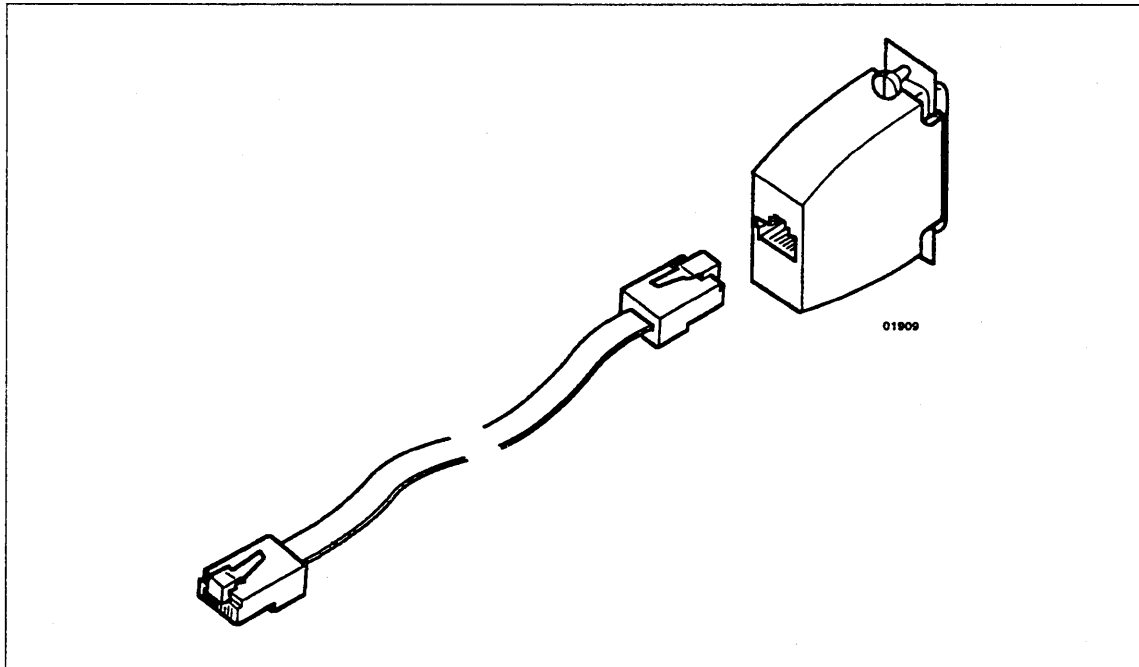
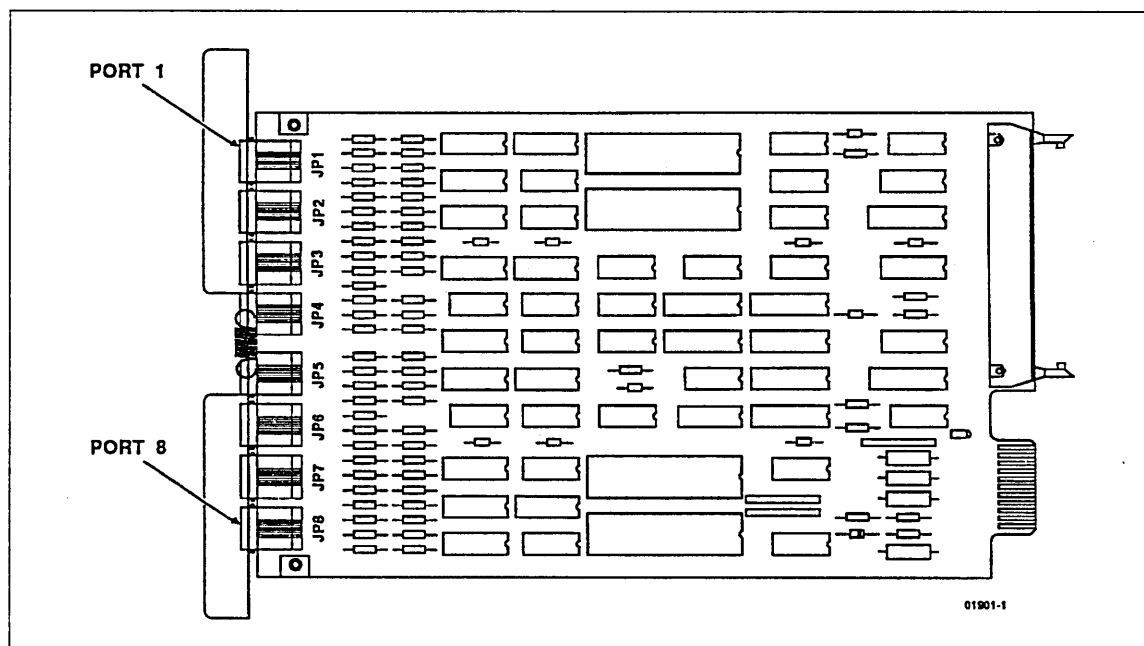

Figure 2-7. DY267 (8-Port) LIM Cables (YA333-x) and Modular Adapter (YA324-x)
Figure 2-8. DY267 LIM Port Connectors
The DY267 LIM uses YA333 cables and YA324 modular adapters (figure 2-7). The A, B, C, and D suffixes to the cable equipment numbers (such as YA333-A) indicate cable lengths of 4.3 m (14 ft), 7.6 m (25 ft), 15.2 m (50 ft), and 60.8 m (200 ft), respectively. The A, B, C, D, and E suffixes to the modular adapters (such as YA324-A) indicate the different functions provided by each adapter as shown in the following list.
1. Connect the cable(s) (figure 2-7) to one of the connectors on the LIM (figure 2-8).
2. Tag and connect the cables to the appropriate modular adapter (figure 2-7). Connect the modular adapter to the terminal device. Refer to the specific terminal device manual for instructions on connecting cables. Refer to the Batch Device User Guide (listed in About This Manual) for instructions on connecting cables to the printers.